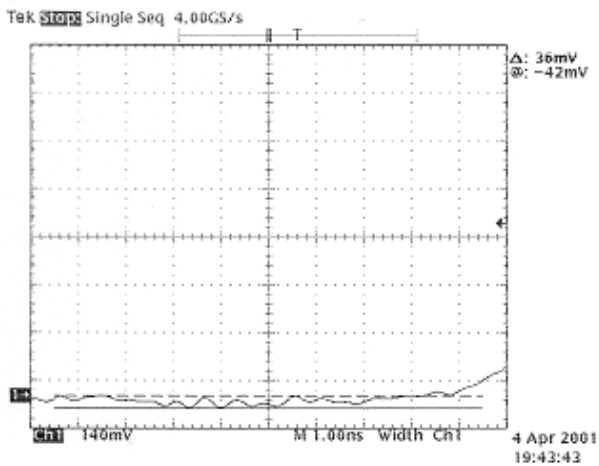
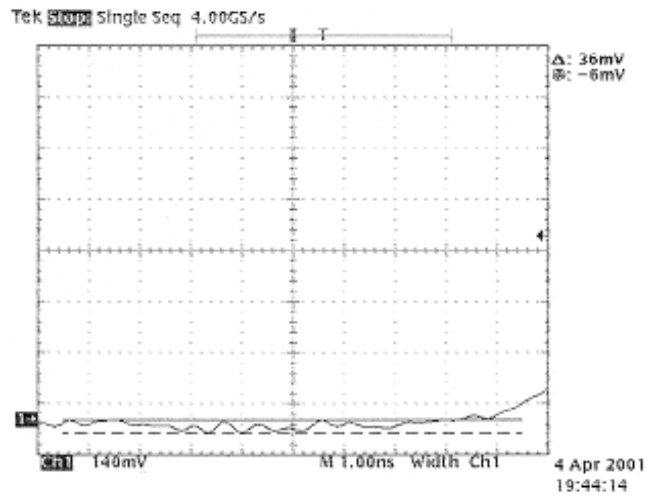
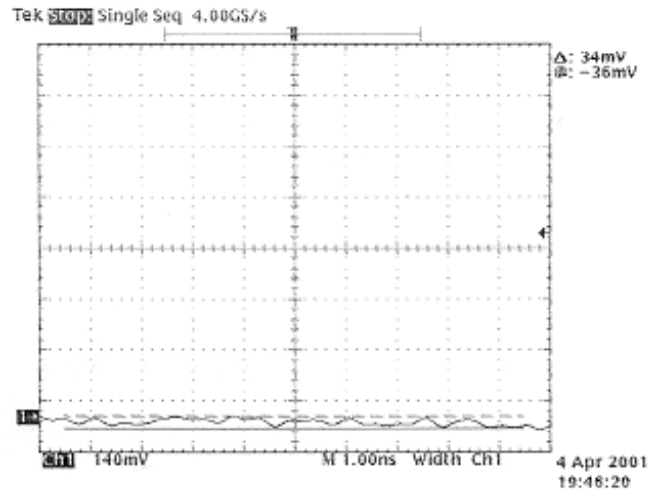
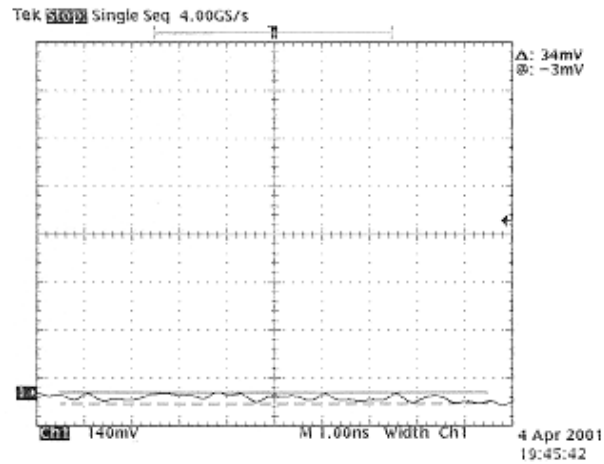

Figure I-5 Lower-left MLT-3 mid-level, lower cursor
Figure I-6 Upper-left MLT-3 mid-level, upper cursor
Figure I-7 Lower-right MLT-3 mid-level, lower cursor
Figure I-8 Upper-right MLT-3 mid-level, upper cursor
13. Scroll horizontally through the waveform, until the left shoulder is occupying the width of the oscilloscope display. Select the horizontal cursors. Move one cursor to the top side of the mid-level shoulder. Move the other cursor to the bottom side of the mid-level shoulder. Record the values of both cursors. [See Figure I-5 and Figure I-6.]
14. Scroll horizontally through the waveform, until the right shoulder is occupying the width of the oscilloscope display. Select the horizontal cursors. Move one cursor to the top side of the mid-level shoulder. Move the other cursor to the bottom side of the mid-level shoulder. Record the values of both cursors. [See Figure I-7 and Figure I-8.]
15. AVERAGE the values of the cursors from the last two steps (average four cursor values). The result is the mid-level value that will be considered the base of the pulse. [-21.75 mV is the average mid-level, from example Figure I-5 through Figure I-8]